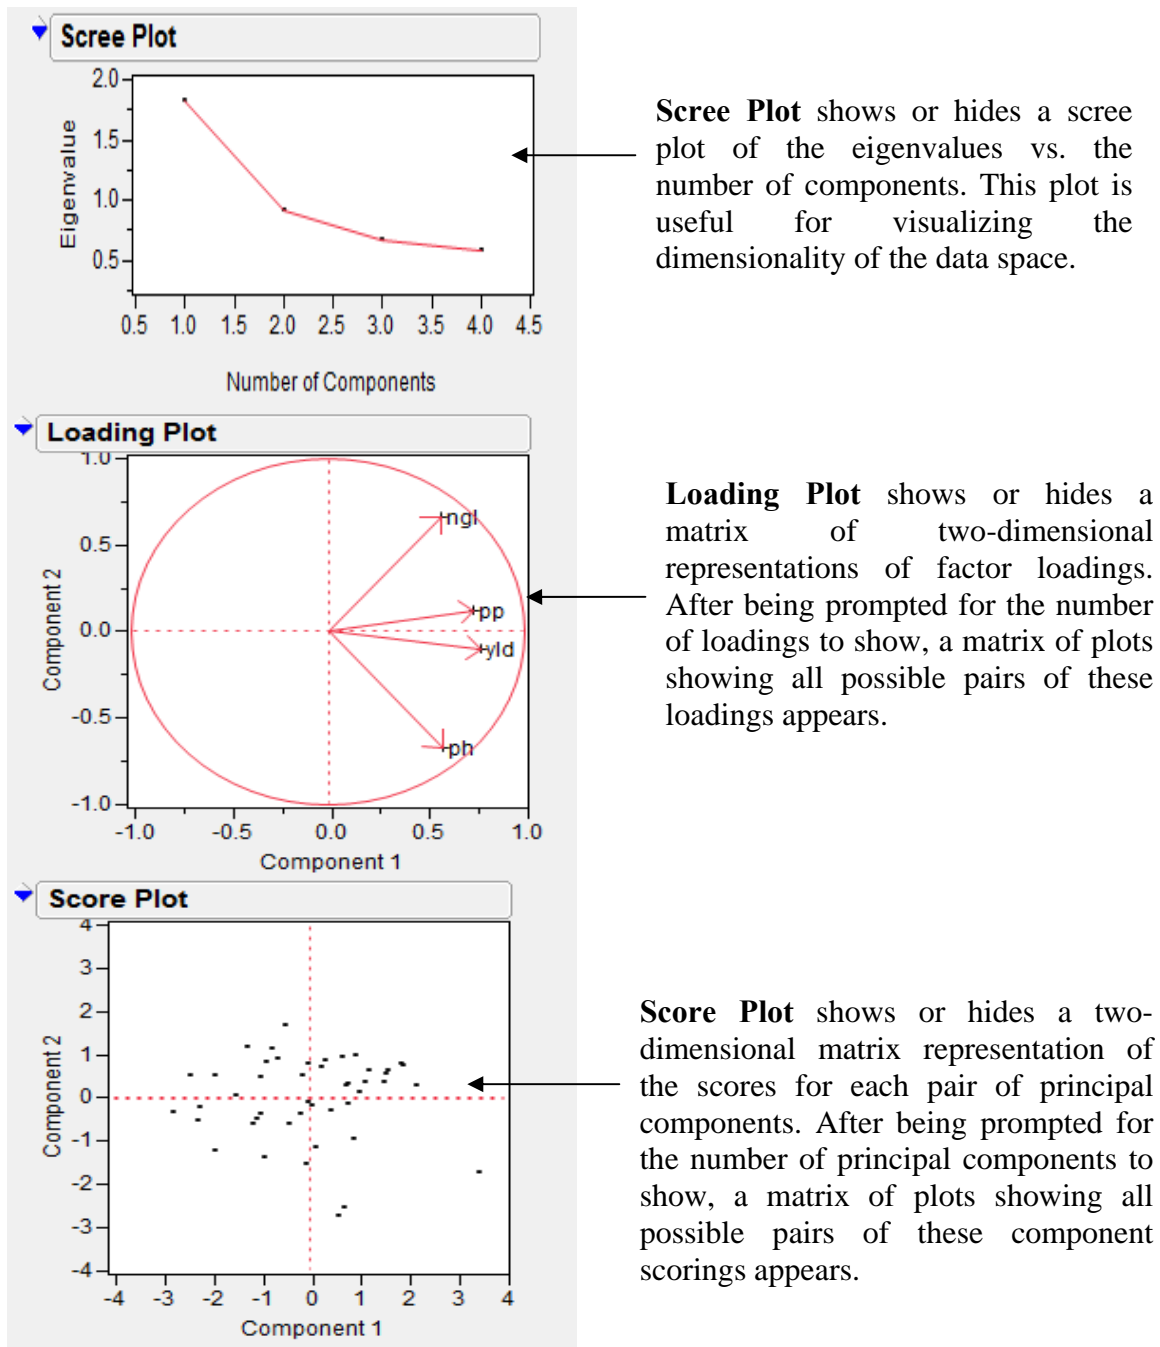

Figure 5.4.3: Scree Plot, Loading Plot and Score plot Output
3. One can see the Eigenvectors, Scree plot, Score plot, Loading plot and various other options available by clicking hot spot button of **Principal Components/Factor Analysis** and select the required option. See Figure 5.4.3 for output.